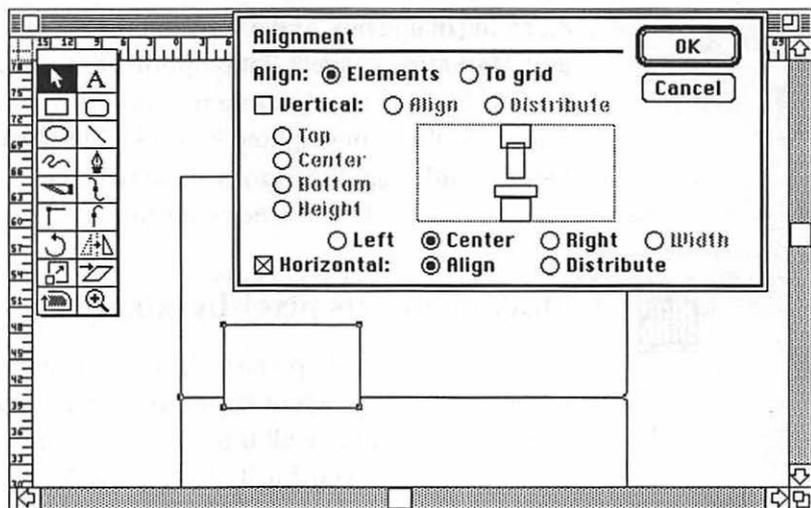

FIGURE 3-11 To center an object on the page in FreeHand, use the Alignment command to center both the object and a line that spans the page.
3. Choose the ALIGNMENT command from the Element menu (or press Command + /). In the Alignment dialog box, turn on the *Horizontal* and *Center* options (Figure 3-11) and click the OK